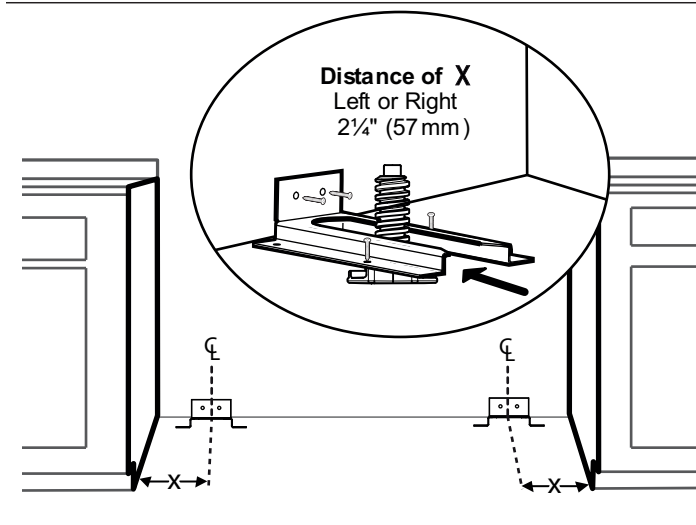

Figure 7: Placement of Anti-Tip Bracket
1. Place bracket on floor in a position shown in *Figure 7*.
2. Secure to floor and wall stud using the (4) 1½" (38 mm) Phillips head screws provided.
3. Later, when the unit is installed, the adjustable leg will slide under the bracket, as shown in *Figure 7*.